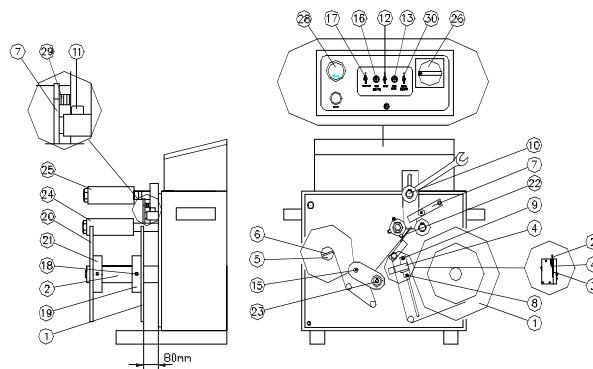
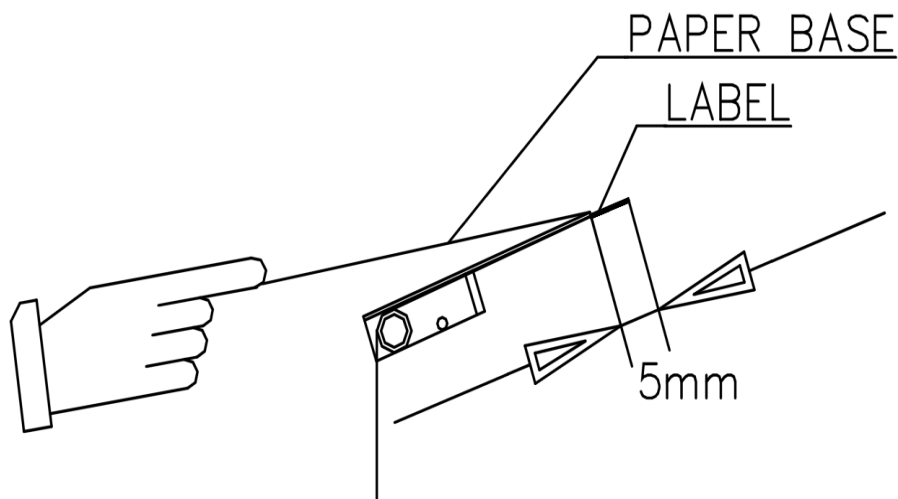

FIG. 2
FIG. 3
- a) Position the paper guide disc 1 Fig. 2 onto pin 2 so that the distance of the disc from the vertical plane of the machine is 80 mm.
- a) After installing the bottom disc and checking its position (see point 3.01) insert the label roller into pin 2 Fig. 2 inserting it into the ring 19 and put over this the retainer disc 20 so that the ring 21 enters the middle hole of the paper roller.
- b) Unwind the label tape making it pass around the pins, following the route shown in the diagram on the face of the machine, to reach close to the photocell 4 Fig. 2.
- d) Using your hands, pull the portion of tape continuing beyond the blade so as to remove the labels 1 fig.3 until the paper base 2 Fig. 3 is sufficiently long to be able to reach the roller 5 Fig. 2.
- b) Stop when the label protrudes from the blade by approximately 5 mm Fig. 3.
if it comes out less, loosen screws 8 and 9 fig.2, then move the photocell 4 fig.2 towards the blade. otherwise turn it on the contrary.
- (a) Loosen the screws 11 Fig. 2 that keep the bottle retainer 7 secured.
- a) Turn on the main switch 26 fig. 2 on the control panel, and turn switch 12 Fig. 2 onto OFF
- b) By hand, press the bottle support 7 Fig. 2; this causes a label to come out.
- c) Insert the key supplied into the housing of pin 10 Fig. 2 and turn it anticlockwise so as to loosen it and make it possible to move the roller 25.
- a) Turn on the main switch 26 fig.2 on the control panel.
For the machine to be able to apply a back label taking a label that is already present as reference, it is necessary for the machine to leave the FACTORY with a special photocell (1 fig. 4a) installed that is capable of detecting the position of the label or a microswitch installed on device 7 Fig. 2 capable of detecting the mark on the bottom of the bottle.
- c) When the machine stops at the end of a cycle, the roller 25 Fig. 2, which presses the bottle, must be lifted off the bottle by approximately 15 mm and for this reason the bearing 7 Tab. 2 must stop exactly at the highest point of the cam 8 Tab. 2.